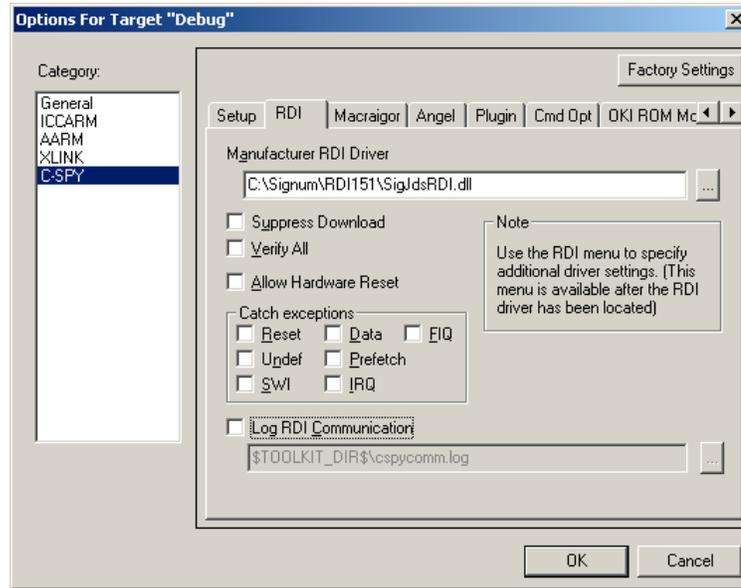

FIGURE 5 Selecting the RDI driver DLL file for C-Spy.
2. Select the RDI tab. In the Manufacturer RDI Driver edit box, navigate to the SigJdsRDI.dll file in the C:\Signum\RDI151 directory, as in Figure 5.